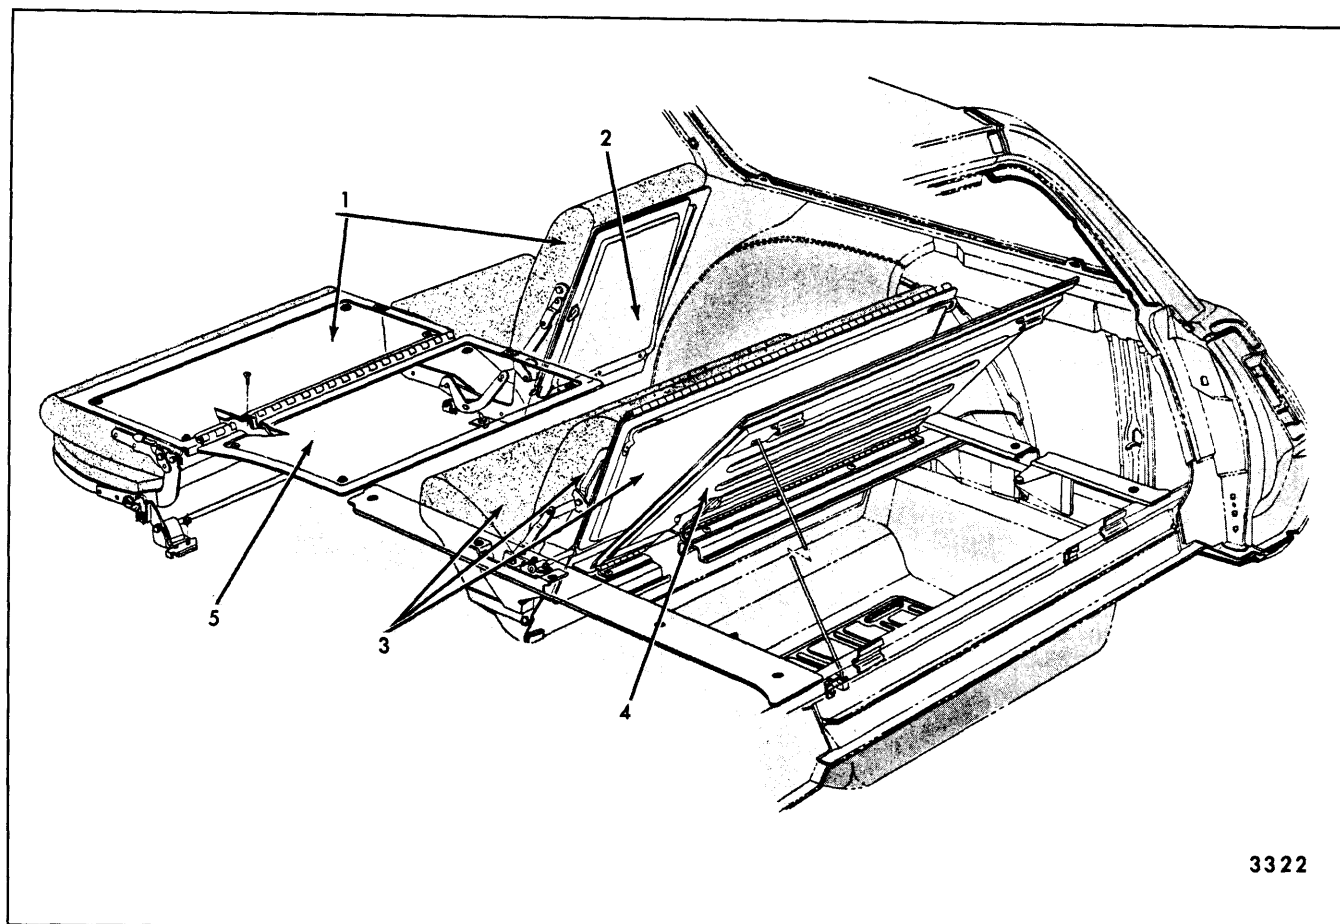

Fig. 15-84—Folding Seats and Load Floor Panels - "A" Body Vista Cruiser and Sport Wagon Three-Seat Styles
Figure 15-84 identifies the major folding seats and load floor panels on the "65 & 66" Style Skylight station wagon.
1. Raise folding third seat. Remove rear compartment left side panel (See Fig. 15-84).